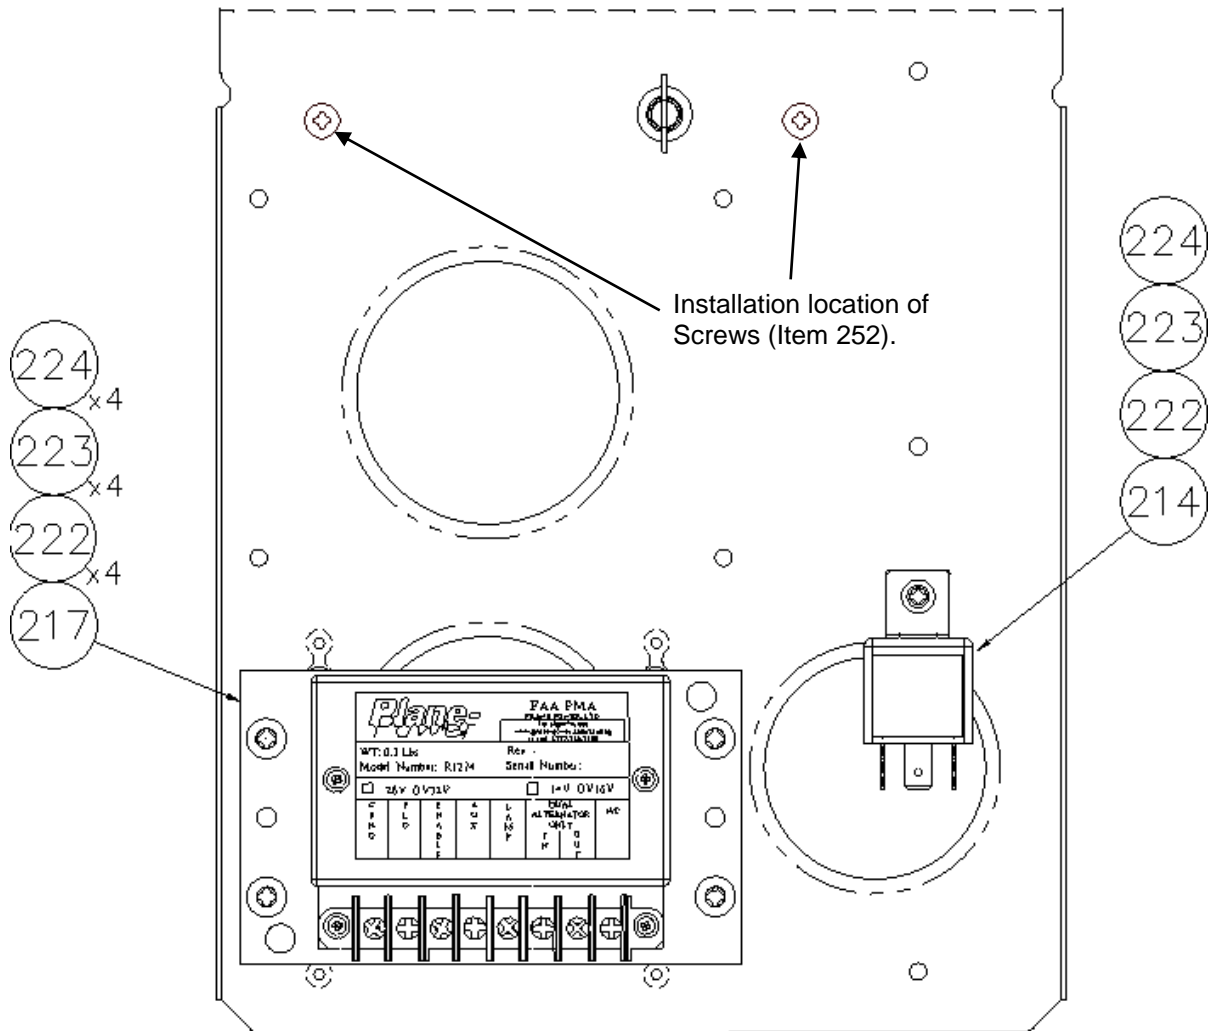

Figure 5 – Installed voltage regulator and relay. (Caution Unit and System Controller not shown).
20. Place the R1224 Voltage Regulator on the Caution Unit Tray such that the terminal strip faces downwards. Refer to Figure 5.
21. Attach the R1224 Voltage Regulator in accordance with Figure 5.
22. Install the Change-over Relay (Item 214) to the Caution Unit Tray in accordance with Figure 5.
25. Re-install the Caution Unit Tray to the aircraft by fastening Camlock. Install Screws (Item 252) into the two rivnuts in cockpit side wall structure. See Figure 5.